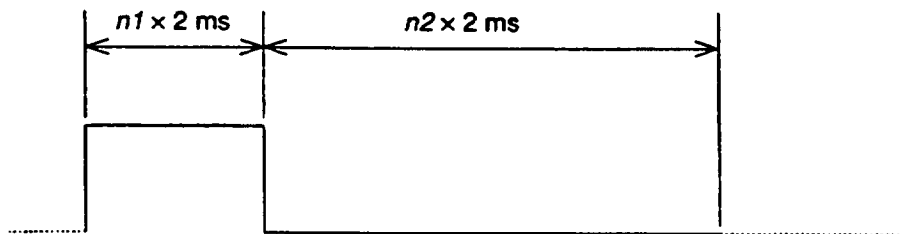

Figure B-2. Drawer kick-out Drive Signal
- (d) Output waveform: Refer to Figure B-2.
The waveform shown in Figure B-2. is output at Point A in Figure B-1 .